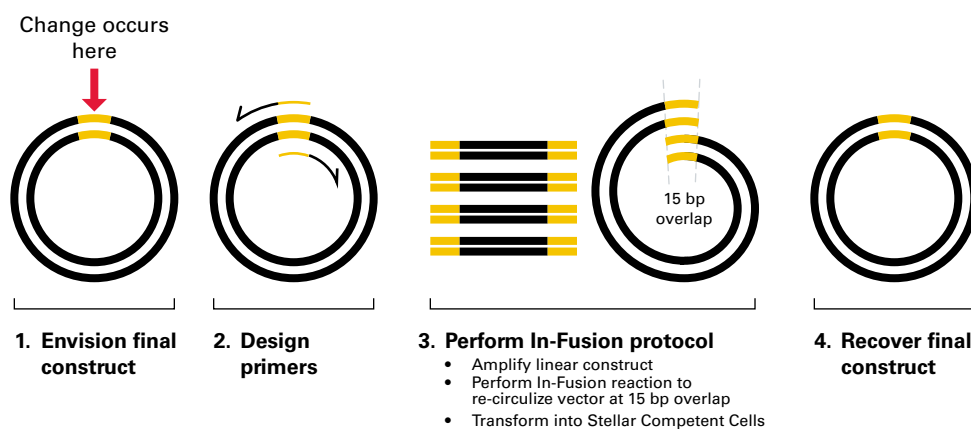

Figure 1. Procedure for performing mutagenesis with In-Fusion systems. The area where mutagenesis occurs is shown in yellow.
In-Fusion PCR cloning makes it easy to perform mutagenesis: it combines the power of the In-Fusion HD enzyme with inverse PCR, a method for rapid *in vitro* amplification of the DNA sequences that flank a region of known sequence (1). During inverse PCR, primers are oriented in opposite directions on your circular cloning vector (Figure 1). To perform mutagenesis with In-Fusion systems, design your PCR primers so that they have a 15 bp overlap with each other at their 5' ends and incorporate the mutation of interest. Use the CloneAmp™ HiFi PCR Premix (a high fidelity PCR polymerase included with all In-Fusion HD Cloning Plus Systems) to perform your PCR reaction, add the In-Fusion HD enzyme premix to your linearized PCR product, and transform into the provided Stellar™ competent cells. You have a ≥95% chance of recovering your final desired construct—the first time and every time.
- 1. Think about your final construct:** Choose the vector you want to modify and envision your final, mutated construct (Figure 1; mutation shown in yellow).